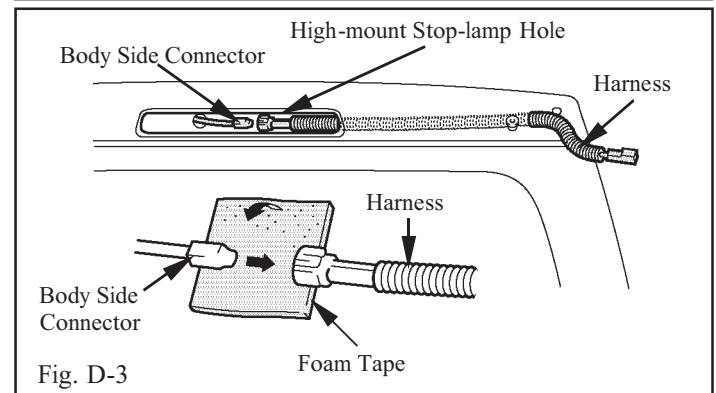

Fig. D-3
- ➔ 3. Connect jumper harness connector to high-mount stop-light connector and wrap the connectors with foam tape. (Fig. D-3)